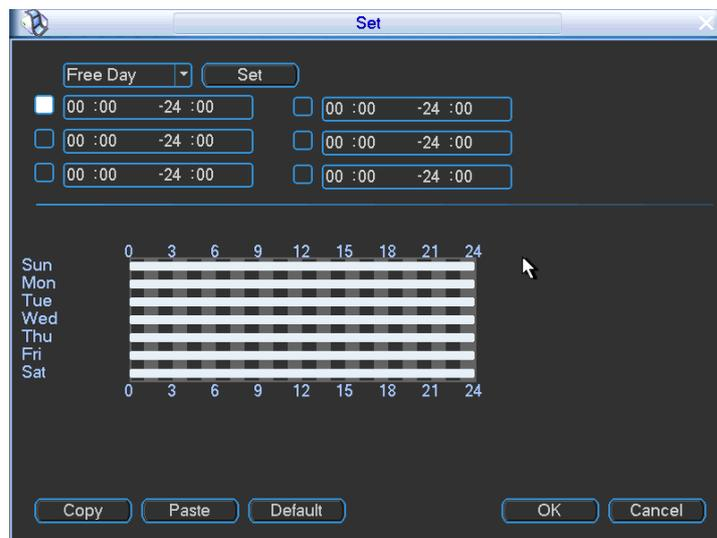
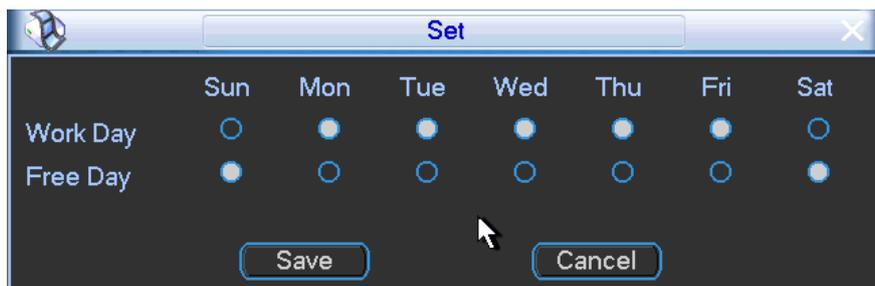

Figure 4-79
Figure 4-80
- Period: Click set button, you can see an interface is shown as in Figure 4-79. Here you can set for business day and non-business day. In Figure 4-79 click set button, you can see an interface is shown as in Figure 4-80. Here you can set your own setup for business day and non-business day.